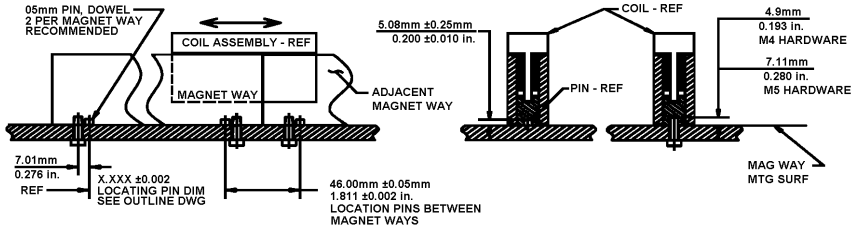

Figure 4 Typical Bottom Mounting Installation Diagram
The stage should be designed to center the coil in the magnet way with provisions for adjustment in order to maintain proper coil to magnet clearance. The relationship of the moving coil relative to the stationary magnet way is critical. The magnet way-mounting surface should be parallel within 0.005 in TIR with respect to the coil/slide travel. Regardless of the motor mounting configuration (bottom or side mount), the required setup gap is required between the coil surface and the magnet face surface. (See the Figure 3 Ironless Motor Installation Diagram, Figure 4 Typical Bottom Mounting Installation Diagram and Figure 5 Typical Side Mounting Installation Diagram.)
3. Install the magnet ways using two 5 mm locational dowels (recommended). (**See Figure 3 Ironless Motor Installation Diagram, Figure 4 Typical Bottom Mounting Installation Diagram and Figure 5 Typical Side Mounting Installation Diagram**). Two pins are required per magnet way. For pin location dimensions, see the magnet way outline drawing. Pin location between magnet ways is 1.811 ± 0.002 in for all magnet way lengths.